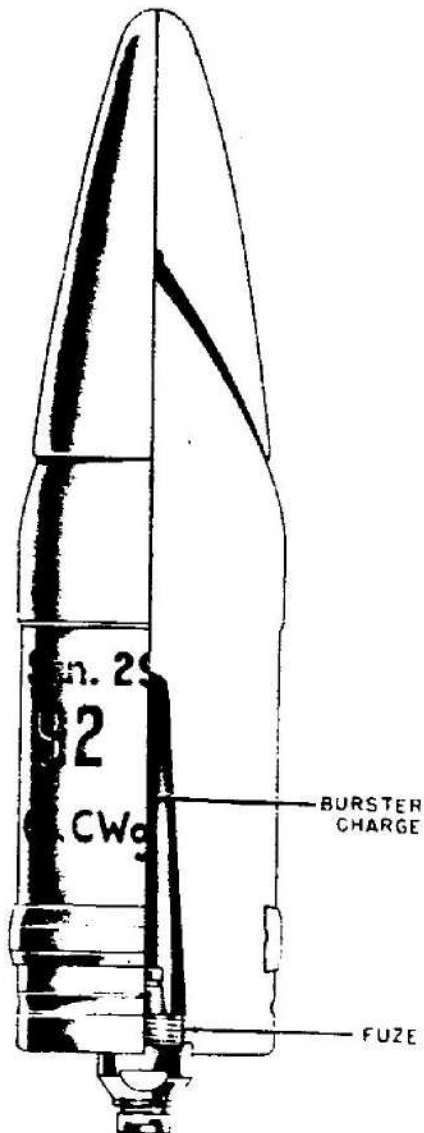

Figure 411—A. P. Projectile With Cap, Type 39,
**GERMAN NOMENCLATURE:** 7.62-cm. Pzgr. Patr. 39 (r) rot (Panzergranate Patrone 39 (russ) rot). (See fig. 411.)